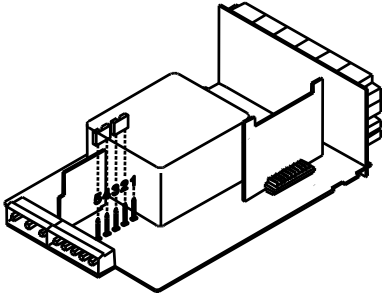

Fig. 9.2. Supply voltage 230 V or 48 V AC
**115/230 V AC:** The instruments with 115/230 V AC power, are shipped from the factory for 230 V AC (USA market 115 V AC), see figure 9.2. To change supply voltage to 115 V AC, set jumpers as indicated in figure 9.3 (see table 1). The wiring label should be modified to match new setups.
**24/ 48 V AC:** The instruments with 24/48 V AC power supply, are shipped from the factory for 24 V AC, see figure 9.3 To change supply voltage to 48 V AC, set jumpers as indicated in figure 9.2 (see table 1). The wiring label should be modified to match new setups.